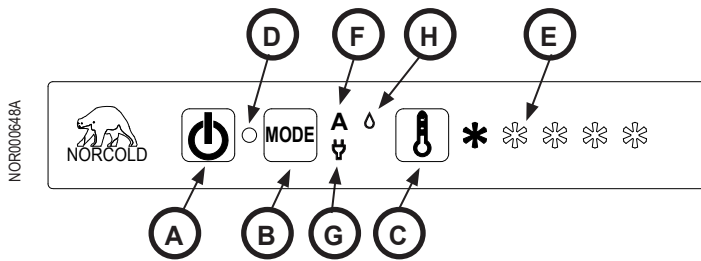

Fig. 14 - N7X and N8X user interface (control) locations
Touch the Power ON / OFF button (See Fig. 14, A) to turn on the refrigerator.
Touch and hold the Mode button (See Fig. 14, B) to scroll through the available modes of operation of the refrigerator, one after the other. When the desired mode indicator(s) comes on, release the Mode button.
- AUTO Mode: The AUTO Mode indicator (See Fig. 14, F) comes on and the refrigerator controls automatically select the most efficient energy source that is available.
- If available, the refrigerator controls select AC electric as the power choice and the AC mode indicator (See Fig. 14, G) comes on also.
- If AC electric is not available, the controls select gas as the power choice and the gas mode indicator (See Fig. 14, H) comes on also.
Touch and release the Temperature Set button (See Fig. 14, C) to view the current temperature setting.
There are five (5) temperature setting indicators (See Fig. 14, E).
- When only one (1) temperature setting indicator is on, the temperature setting is the warmest.
- When all five (5) temperature setting indicators are on, the temperature setting is the coldest.
Should none of the heat source inputs be available, the power ON / indicator light (See Fig. 14, D) will be solid RED.